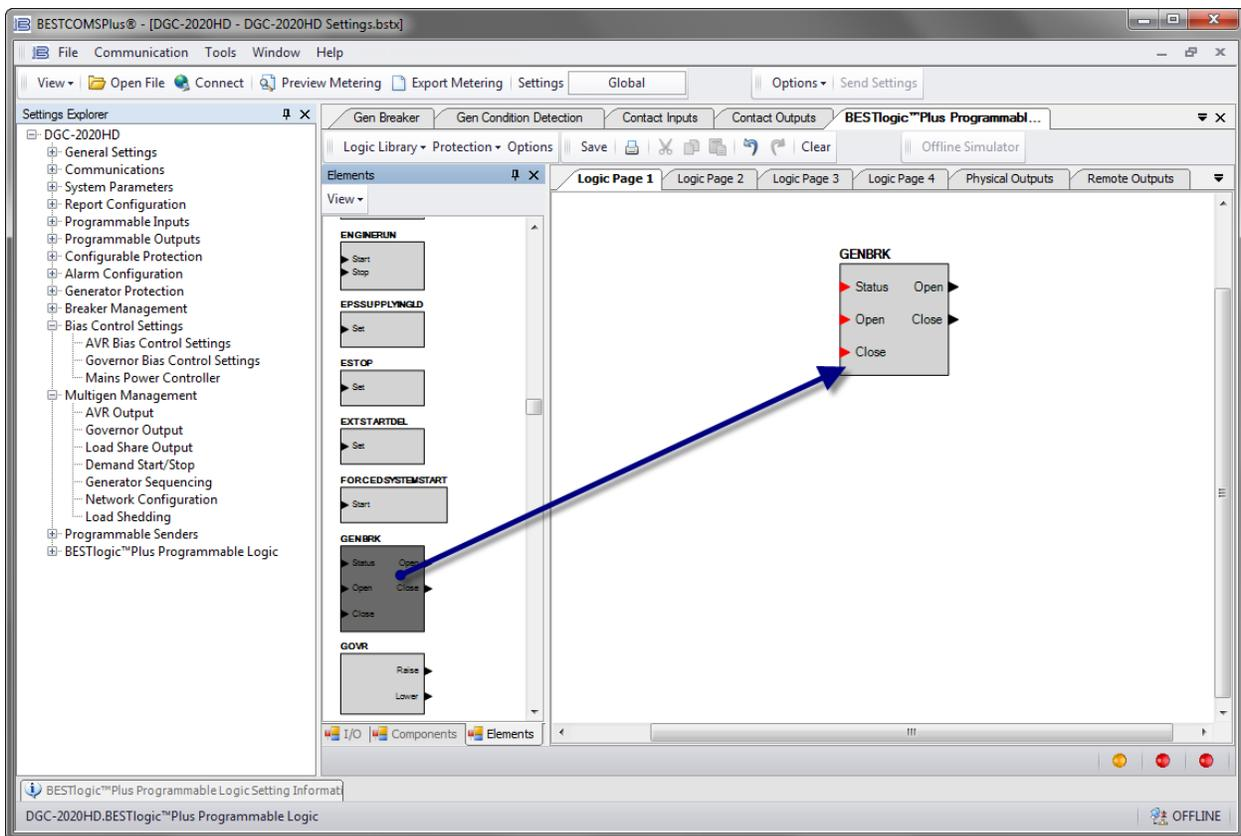

Figure 13-10. Synchronizer Setup in BESTlogicPlus Step 25
25. Set up programmable logic to allow the DGC-2020HD to synchronize the generator and close the generator breaker. In BESTlogicPlus Programmable Logic, click on the Elements tab and drag the GENBRK (Generator Breaker) element into the main logic screen. See Figure 13-10.